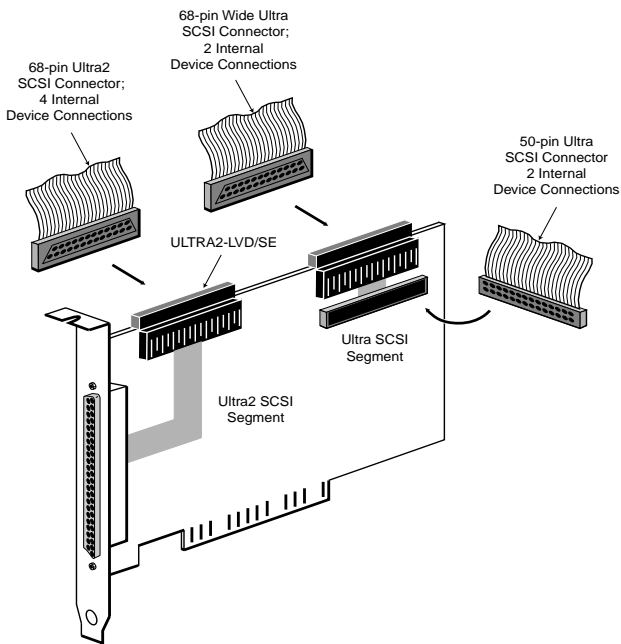

Figure 5-5. SCSI Card Configuration
For maximum performance, connect only Ultra2 devices to the Ultra2 segment of the card. Connection of non-Ultra2 devices will degrade the Ultra2 segment's performance to Ultra SCSI performance levels. Only use cables certified for Ultra2 with the external Ultra2 connector. Refer to Figure 5-5.
- [] 1. Connect one end of a 68-pin Ultra2 SCSI Ribbon Cable to the Ultra2-LVD/SE connector on the SCSI Card. See Figure 5-5.
- [] 1. Connect one end of a 50-pin Ultra SCSI Ribbon Cable to the Ultra SCSI Segment connector on the SCSI Card. See Figure 5-5.